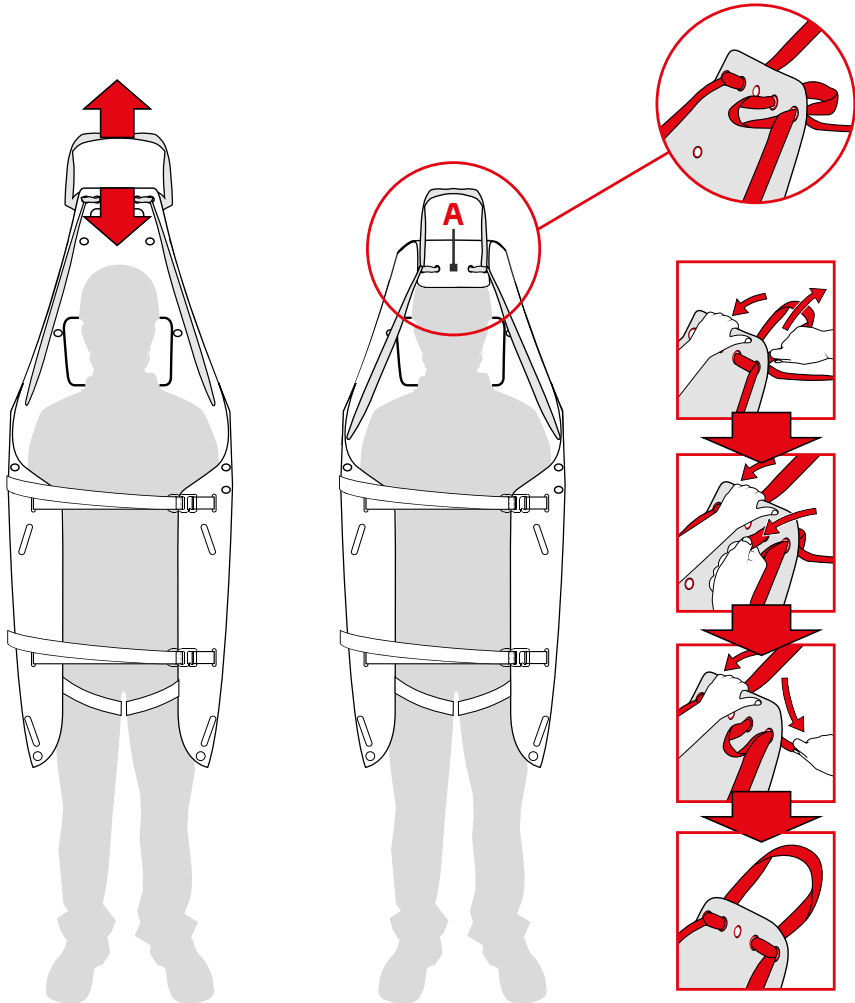

Fig.13
- Dragging: tension the sling (E) to lift the end part of the support surface (A) enough to contain the head of the patient and immobilise it (fig. 13).